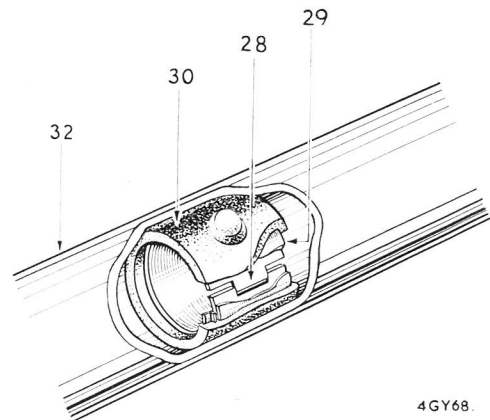

Fig. 14. Section through steering column bush assembly
Assemble the nylon bush (28) and steel sleeve (29) to the rubber bush (30) as shown on Fig. 14.
Push the bush assembly into the bottom of the outer column (32), engaging the locating lugs with the holes as shown on Fig. 14. Ensure that the metal reinforcement ring at the end of the bush is positioned towards the lower end of the column. Repeat the upper bush assembly.